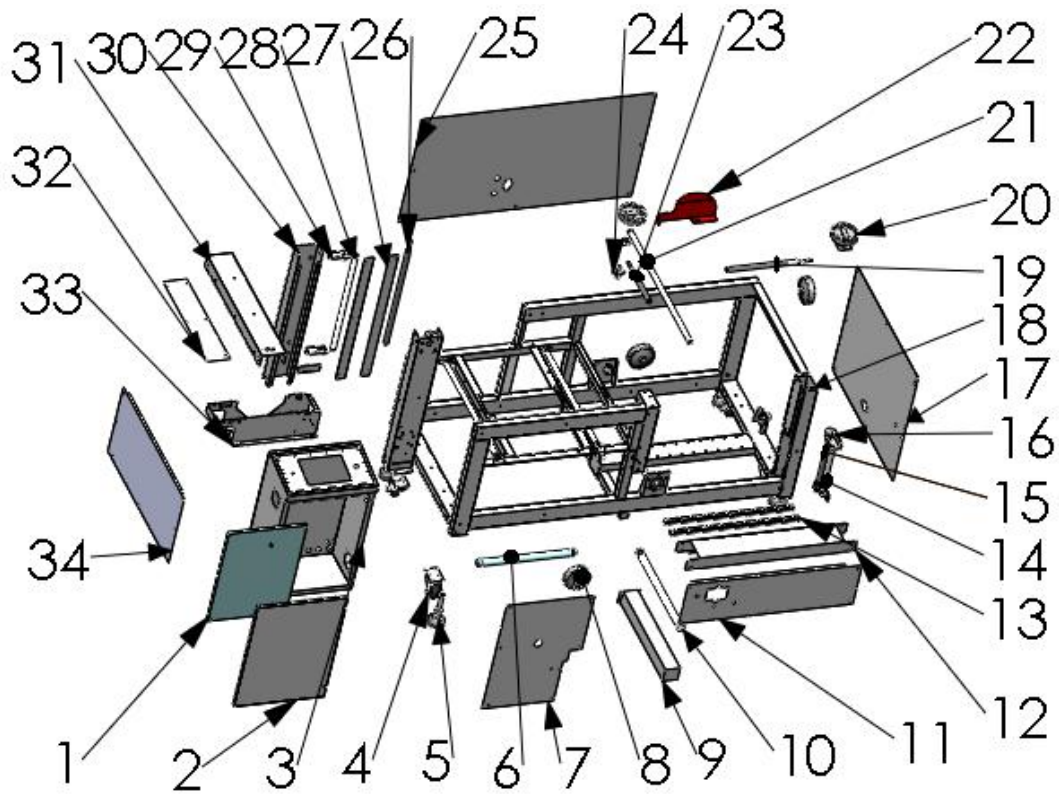

Figure 26
5.2 Main frame and electric box, as shown in Figure 26 and Table 2.